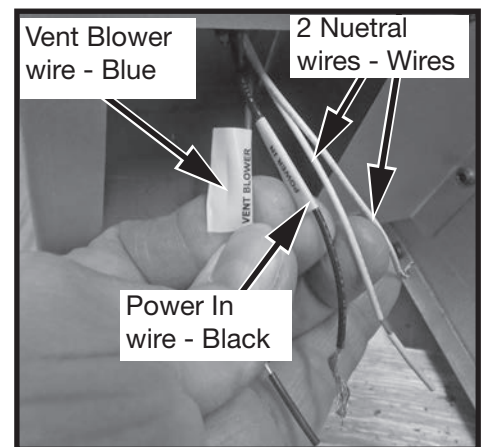
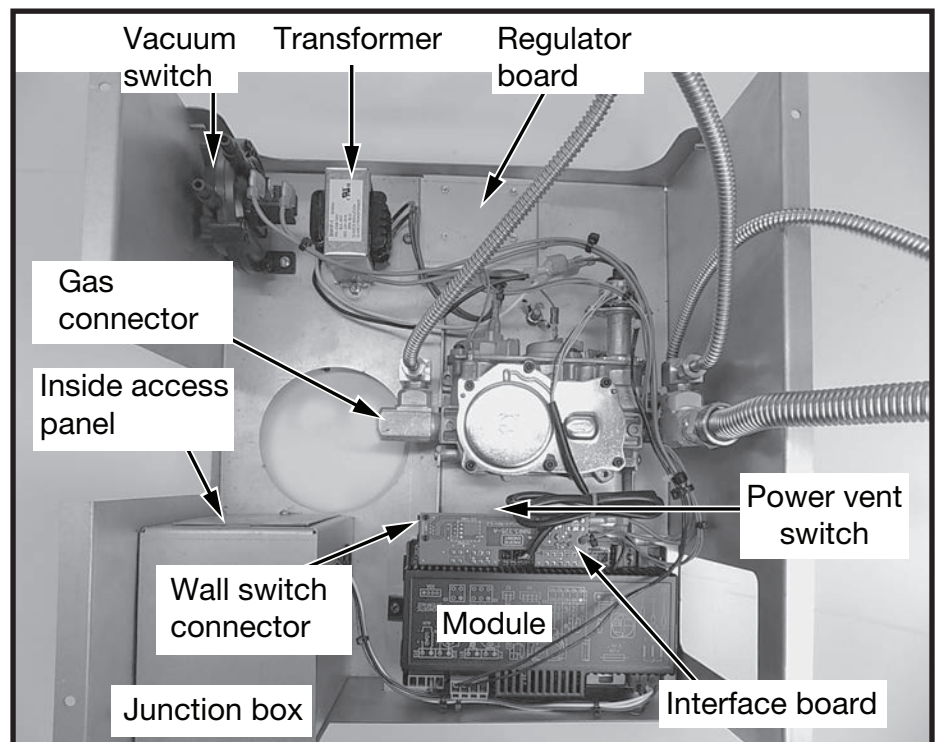
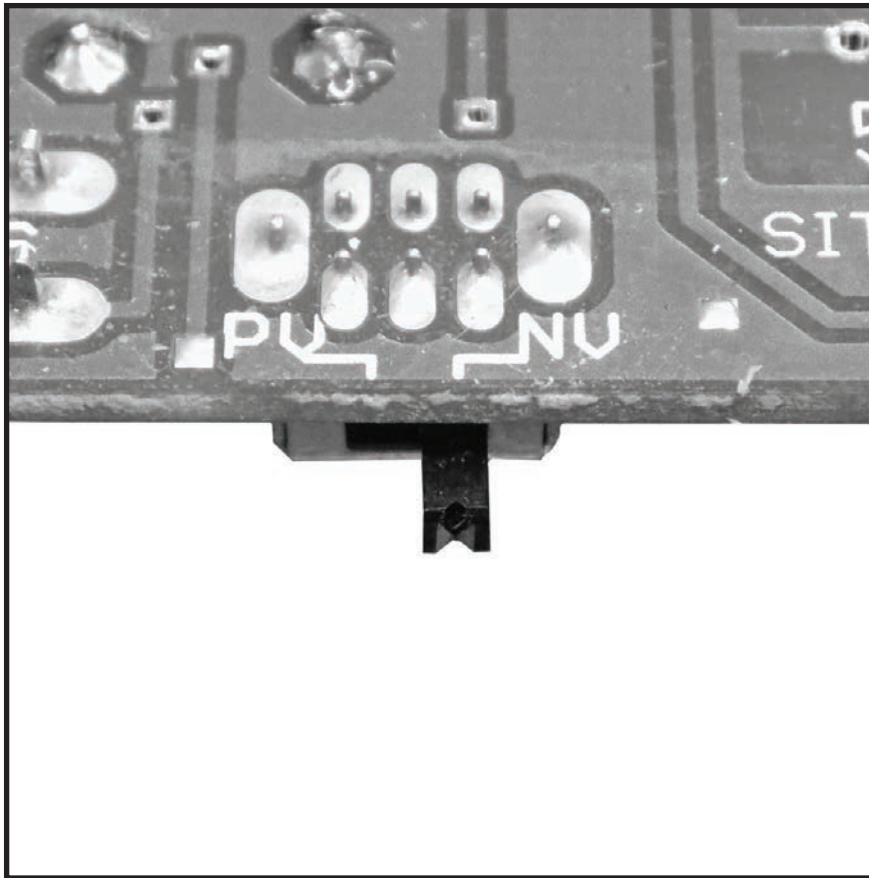

Figure 29: Junction box wiring.
Figure 30: Valve assembly components.
Figure 34: Vent mode selection switch.
4. Connect 110 V. AC electrical supply to the wires installed inside the junction box (Figure 29). The fireplace is rated at 110 volts, 60Hz, 0.25A. The optional power vent kit is rated at 115 volts, 60Hz, 1.8A.
The electrical wires can be accessed from both inside and outside the junction box by removing one of the two small access panels (Figure 29) or (Figure 30).
7. Attach one end of the wall switch control cable to the wall control. (Figure 33), and the other end to the interface board (Figure 30).
The PV / NV (Power Vent / Natural Vent) switch (Figure 34) on the interface board (Figure 30) is set according to which type of evacuating vent system is present. If the fireplace is vented without the assistance of a power vent, the switch should be set to “NV”. If using a power vent, “PV” should be selected. Follow the instructions provided with the power vent kit for proper installation.
1. Connect the gas supply to the valve (Figure 30).